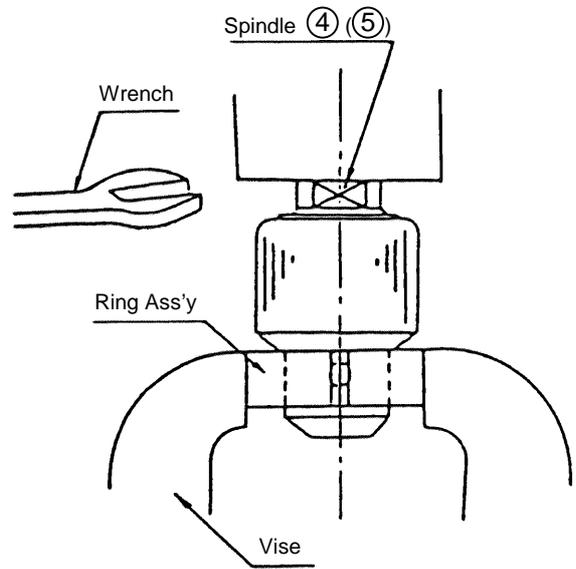

Fig. 9
The Drill Chuck ② (③) is fixed to the Spindle ④ (⑤) by a UNF ½ -20 thread (right-hand threaded). As illustrated in Fig. 9, attach a J-78 Ring Ass'y (Special Repair Tool, Code No. 970817) to the Drill Chuck (inserting the pin of the Ring Ass'y into one of the Chuck Wrench mounting holes on the body of the Drill Chuck) and secure the Ring Ass'y in a vise. Then, fit a 17 mm (43/64) width x 4 mm (5.32) or less thickness wrench onto the flat surfaces provided on the Spindle ④ (⑤), and turn the Spindle counterclockwise to remove the Drill Chuck ② (③).